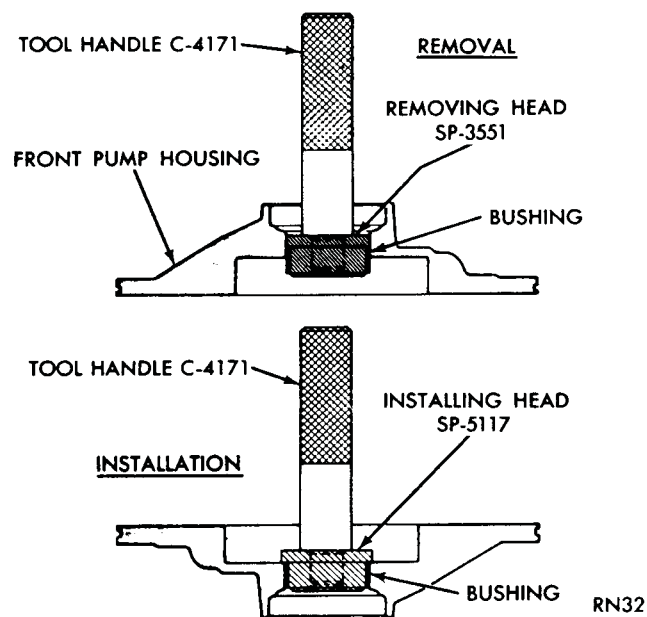
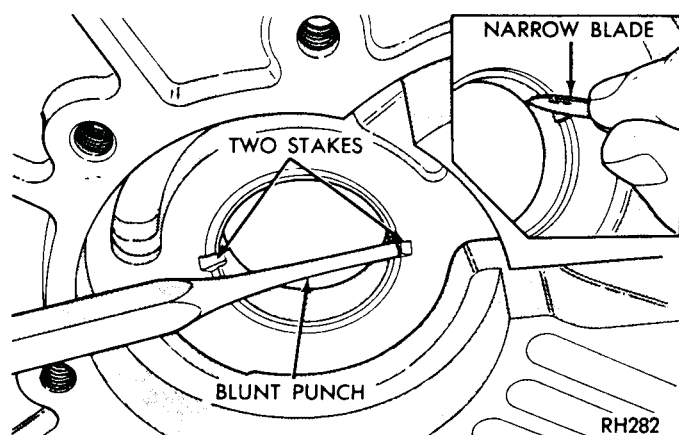

Fig. 10—Replace Pump Bushing (A-904T and A-999)
Fig. 11—Stake Pump Bushing (A-904T and A-999)
- (1) Place pump housing (seal face down) on a smooth firm surface.
- (2) Place removing head, Tool SP-3551 in bushing and install handle Tool C-4171 in the removing head (Fig. 10).
- (3) Drive bushing straight down and out of pump housing bore. Be careful not to cock tool in the bore.
- (4) Position new bushing on installing head Tool SP-5117.
- (5) With pump housing on a smooth, clean surface, start bushing and installing head in the bushing bore. Install handle in the installing head (Fig. 10).
- (6) Drive bushing into housing until tool bottoms in the pump cavity. Be careful not to cock tool during installation.
- (7) Stake bushing in place by using a blunt punch or similar tool (Fig. 11). A gentle tap at each stake slot location will suffice.
- (8) Using a narrow-bladed knife or similar tool, remove high points or burrs around staked area (Fig. 11). Do not use a file or similar tool that will remove more metal than is necessary.